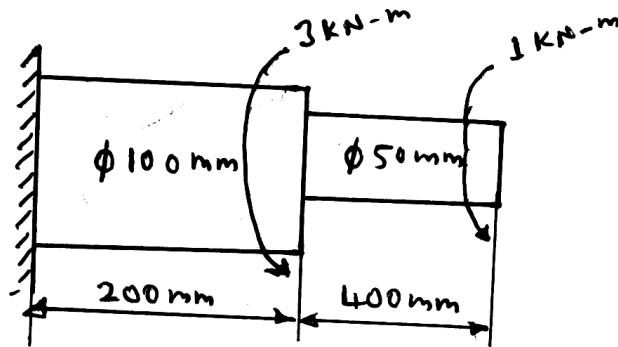

Fig Q6(b)
- b. A solid stepped bar of circular cross section as shown in Fig Q6(b), is subjected to a torque of 1 kN-m at its free end and a torque of 3 kN-m at its change in C/S. Determine the angle of twist in the bar. Take $E = 2 \times 10^5 \text{ MPa}$, $G = 7 \times 10^4 \text{ MPa}$.